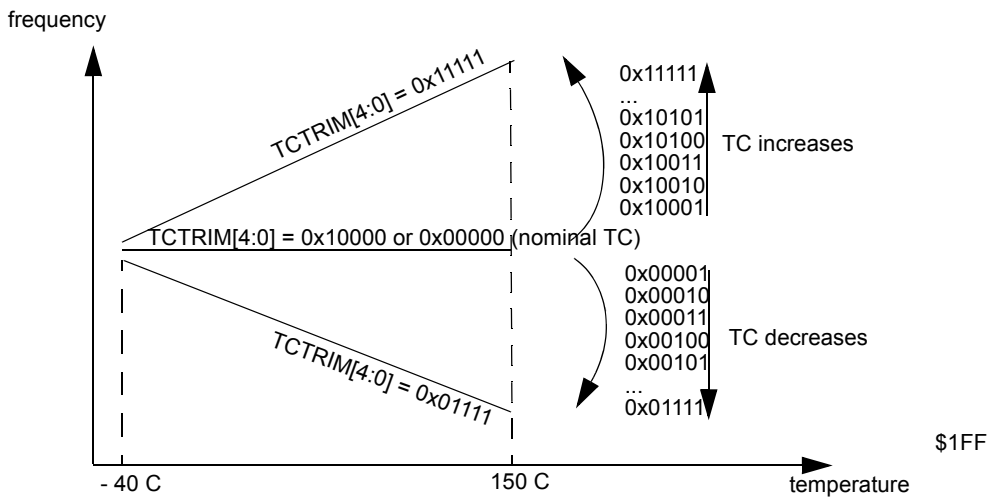

Figure 93. Influence of TCTRIM[4:0] on the Temperature Coefficient
| 15-11 TCTRIM | IRC1M temperature coefficient Trim Bits Trim bits for the Temperature Coefficient (TC) of the IRC1M frequency. Figure 93 shows the influence of the bits TCTRIM[4:0] on the relationship between frequency and temperature. Figure 93 shows an approximate TC variation, relative to the nominal TC of the IRC1M (i.e. for TCTRIM[4:0]=0x00000 or 0x10000). |